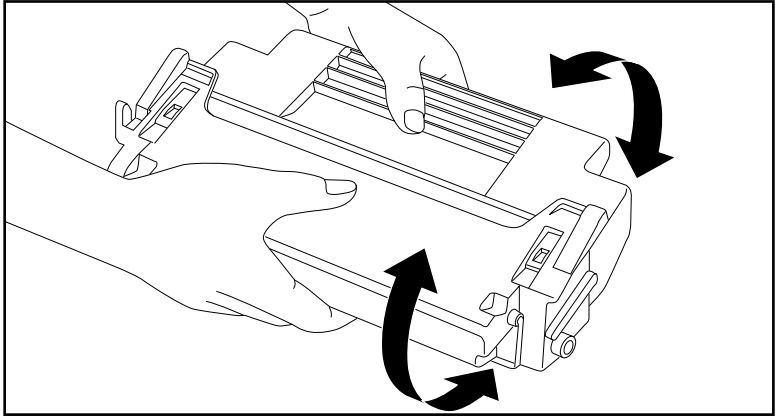

Fig. 6.8 Distribute the Toner
3. Gently rock the cartridge back and forth to distribute the toner evenly throughout the cartridge (fig. 6.8).